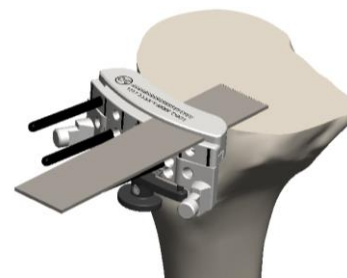

Figure 32
- Use a 1.33mm saw to cut the tibia through the slot in the **Tibial Resection Guide** (Figure 32).